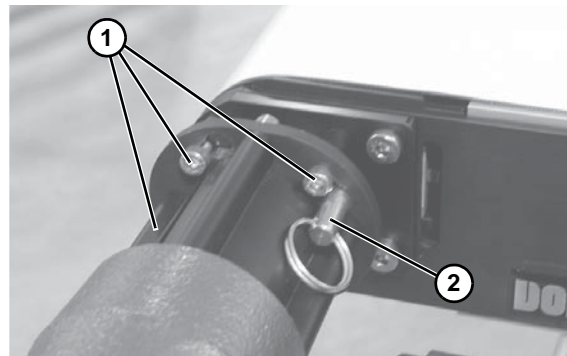

Figure 12
4. Loosen the four (4) coupling lock screws (Figure 12, item 1), remove anti rotation pin (Figure 12, item 2). Rotate and remove gearmotor assembly.